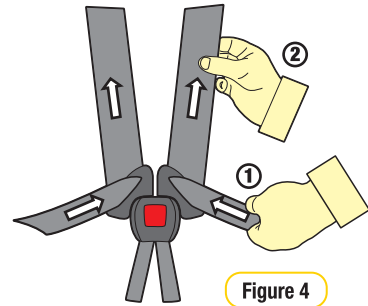

Figure 4
Step 5: Remove all of the slack for the harness lap straps by pulling shoulder straps (refer Figure 4), then pull the harness adjustment strap to adjust harness to a comfortable but firm fit (refer to Figure 4 & 5).